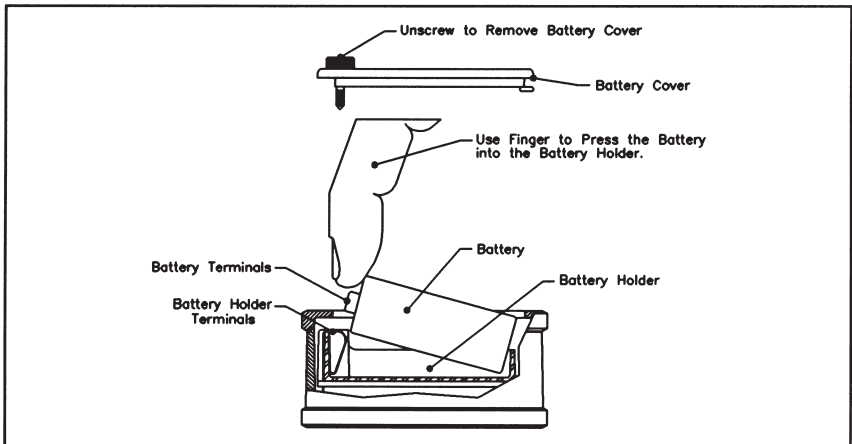

Figure 2. Battery Installation and Removal.
- Replace the battery as follows (see Figure 2):
- 1.) Remove the battery cover. (See Figure 2.)